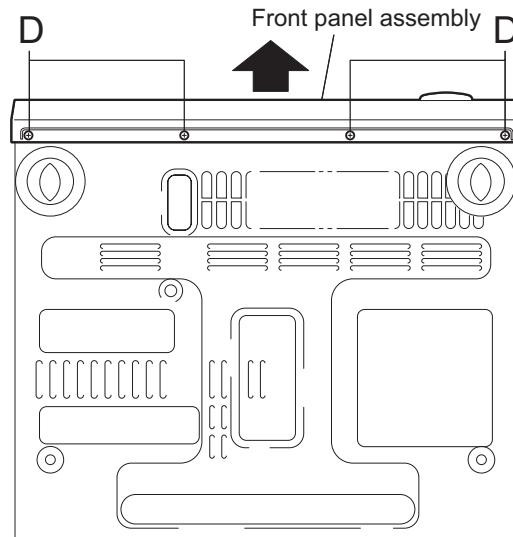

Fig.3
- (5) From the bottom side of the main body, remove the four screws **D** attaching the front panel assembly. (See Fig.3)
- (6) Remove the front panel assembly in the direction of the arrow. (See Fig.3)